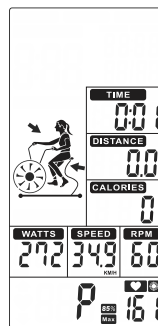

FIGURE 46
3. When start workout, **MAX HR** lights up, 65% & 85% Heart rate will switch to display. TIME/ DISTANCE/ CALORIES/ WATTS,SPEED/ RPM will calculate workout value (Figure 46).